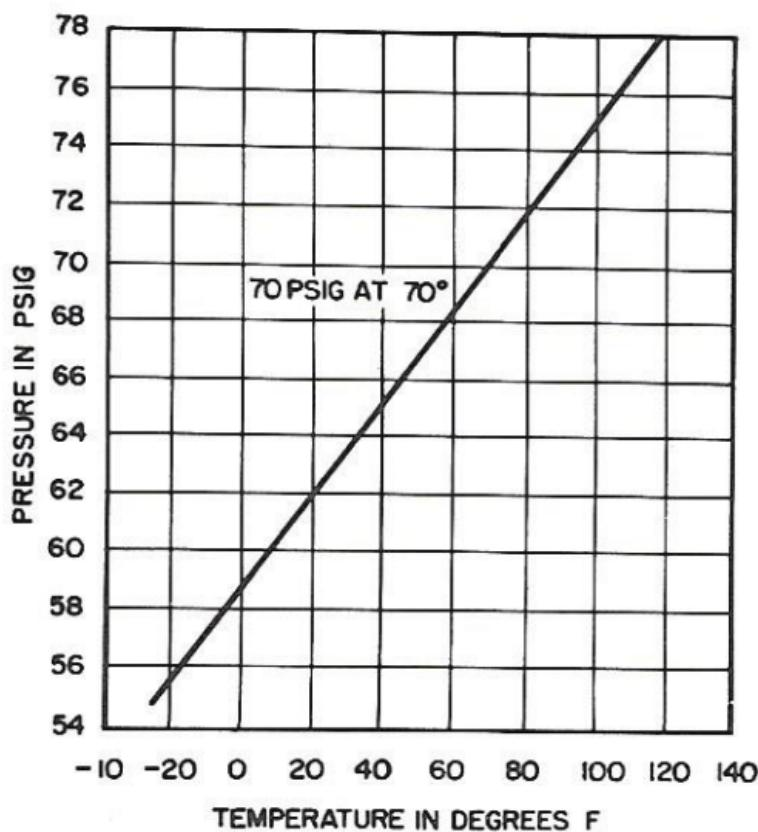

Figure 4-1. System Charging Pressure vs.
1. Open IR COOL'G INTLK - RADAR STBY - close BLEED VALVE - open FILL VALVE = Pressure per temperature (fig. 4-1)
3. Open FILL VALVE = Pressure per temperature (fig. 4-1)